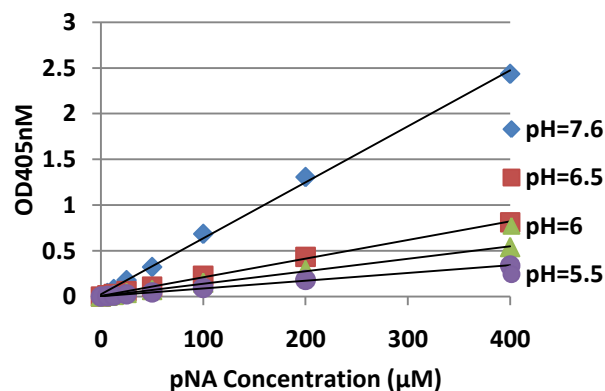

Fig.3. Effect of pH value on the kit result
- See **Figure 3** for a graphical representation of how different pH levels affect enzymatic activity.